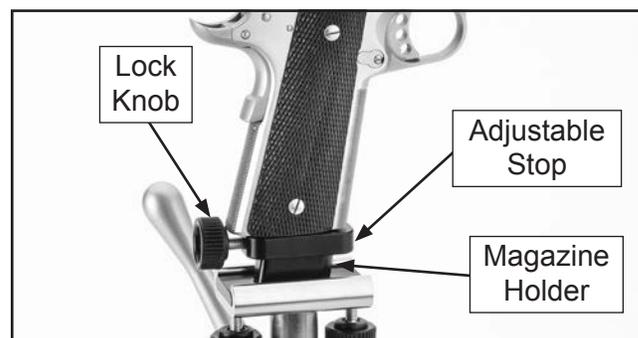

Figure 8. Adjustable stop supporting firearm.
- Slide adjustable stop up until it is snug against butt of firearm, as shown in **Figure 8**, then tighten lock knob.